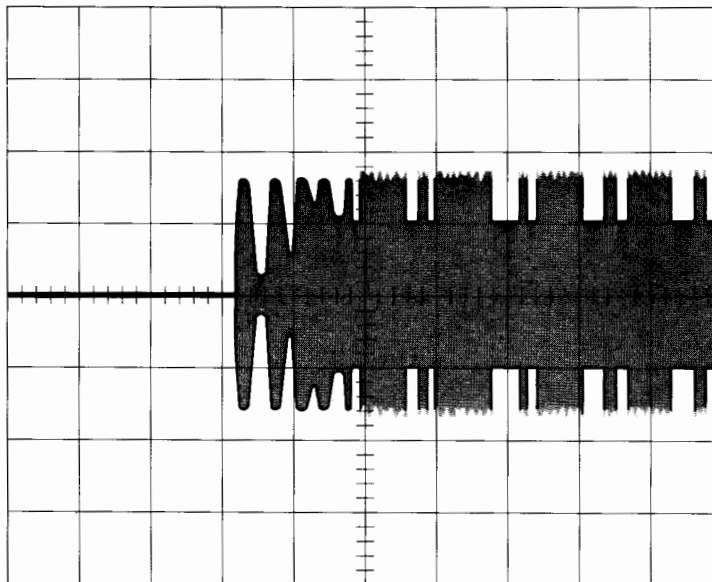

Figure 3-13. Head Load Timing Waveform
5. Energize the head load coil and observe the read signal (see Figure 3-13). The signal must be at full amplitude within 35 milliseconds. If not, proceed with step 6.